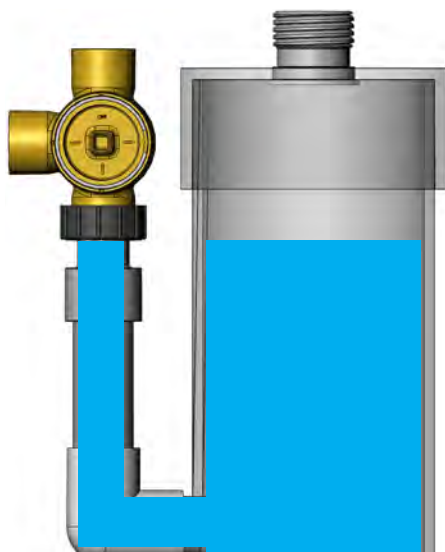
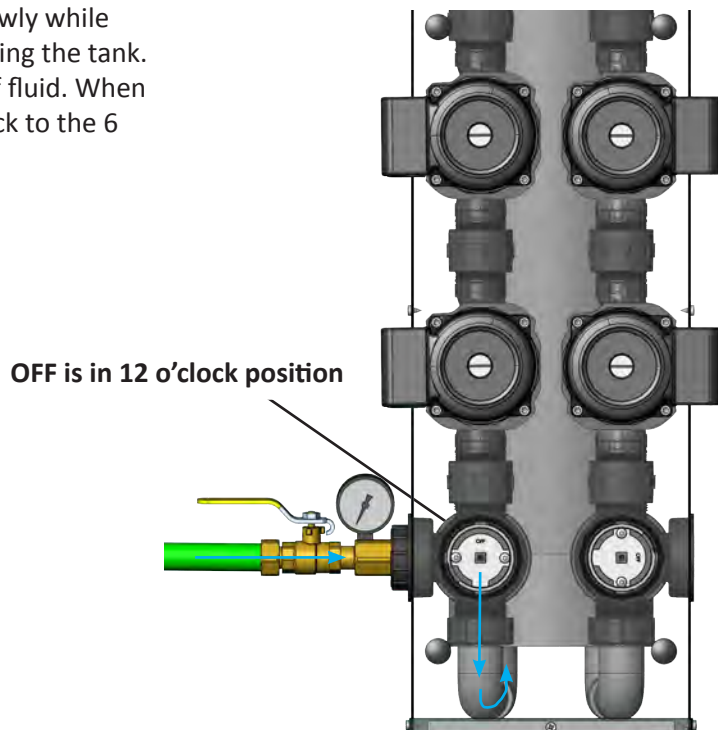

Figure 8: Initial fluid level of the NPD tank (blue shading)
Figure 9: Filling tank
- Fill the NP Series flow center reservoir with clean, debris free loop fluid. This can be the same pre-mixed fluid that remains in the flush cart after flushing and filling the loop. The tank should be filled to above the return pipe and below the upper valve. Figure 8 shows a cross section of the NPD flow center, indicating the approximate fluid level. The tank will be topped off after all flushing is complete. Filling can be accomplished by pouring the fluid into the top of the tank, or by attaching a hose to the lower left valve and turning the valve's OFF position to 12 o'clock (Figure 9). Introduce the fluid to the tank slowly while monitoring the fluid level to prevent over-filling the tank. The tank will hold approximately 5 gallons of fluid. When complete, rotate the valve's OFF position back to the 6 o'clock position and remove the hose.